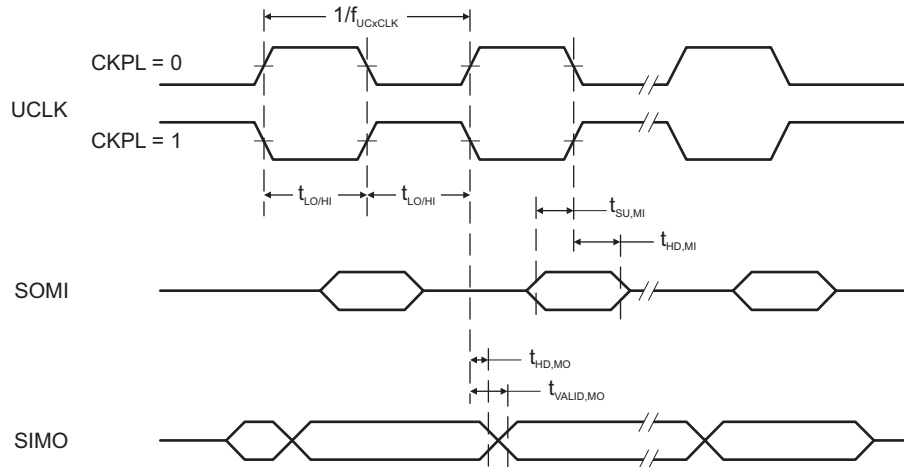
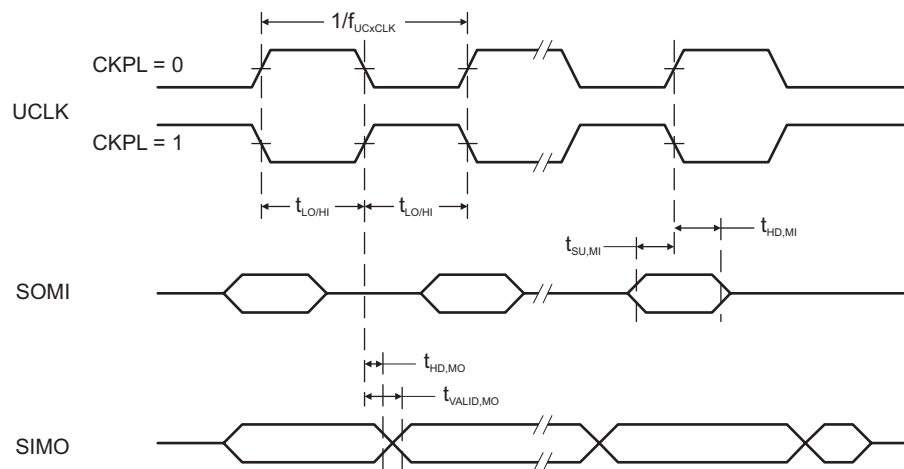

Figure 5-14. SPI Master Mode, CKPH = 0
Figure 5-15. SPI Master Mode, CKPH = 1
over recommended ranges of supply voltage and operating free-air temperature (unless otherwise noted)⁽¹⁾ (see Figure 5-14 and Figure 5-15)
(2) Specifies the time to drive the next valid data to the SIMO output after the output changing UCLK clock edge. See the timing diagrams in Figure 5-14 and Figure 5-15.
(3) Specifies how long data on the SIMO output is valid after the output changing UCLK clock edge. Negative values indicate that the data on the SIMO output can become invalid before the output changing clock edge observed on UCLK. See the timing diagrams in Figure 5-14 and Figure 5-15.